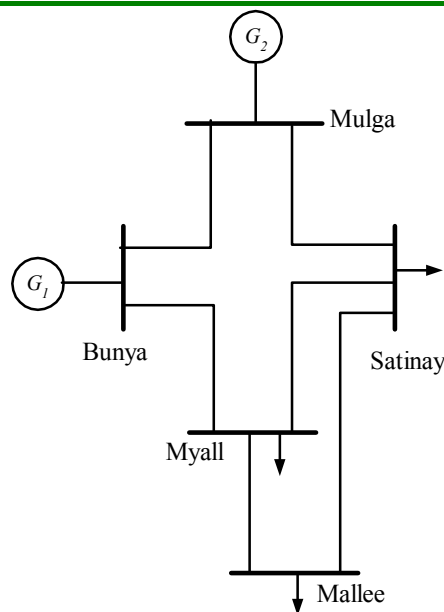

Figure P13-3 The Ozzie Outback Electric Power Company system.
- 13-9.** The Ozzie Outback Electric Power (OOEP) Company maintains the power system shown in Figure P13-3. This power system contains five busses, with generators attached to two of them and loads attached to the remaining ones. The power system has six transmission lines connecting the busses together, with the characteristics shown in Table 13-1. There are generators at busses Bunya and Mulga, and loads at all other busses. The characteristics of the two generators are shown in Table 13-2. Note that the neutrals of